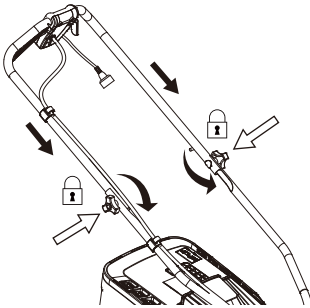

FIG.2
2. Pass the bolts through the mounting holes of handles (Fig. 2).
3. Attach the washer to the bolt and secure the upper handlebar by turning the knob clockwise for tightening (Fig.2).